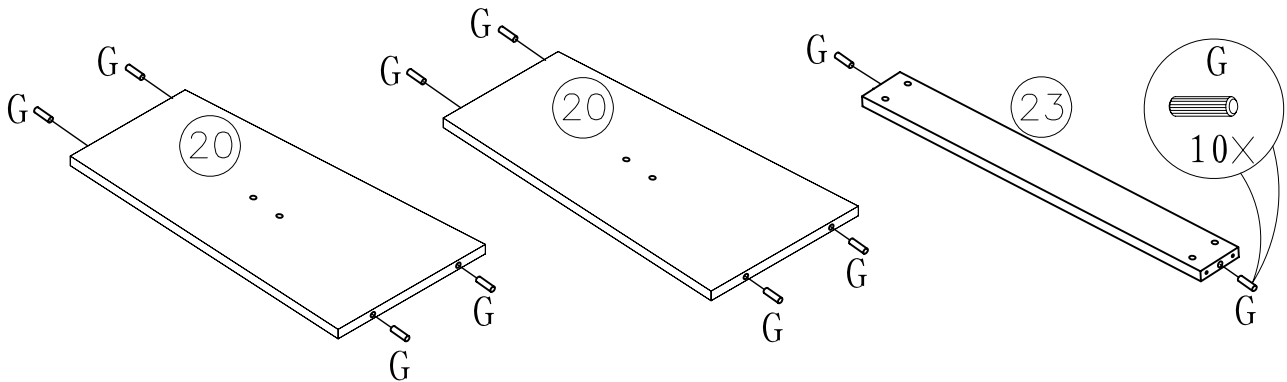

FIGURE 1
- 1.1 INSERT (10) WOODEN DOWELS(G) INTO HOLES LOCATED AT BOTH ENDS OF LEGS #20 AND CROSSBAR #23, AS SHOWN IN FIGURE 1.